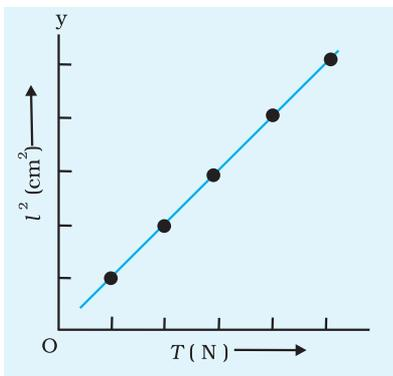

Fig. E 15.4: Graph between l^2 and T
4. Plot graph between l^2 and T as shown in Fig. E 15.4.